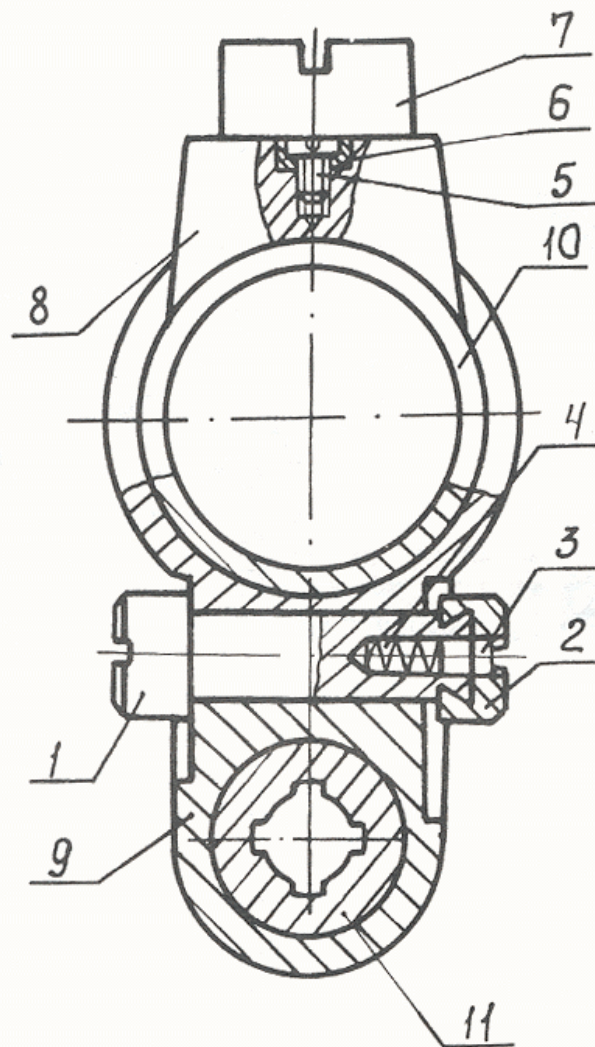

Fig. 2
- 2) **Fig 2:** Now push the top lever to the right and hold. Do not force the top lever.